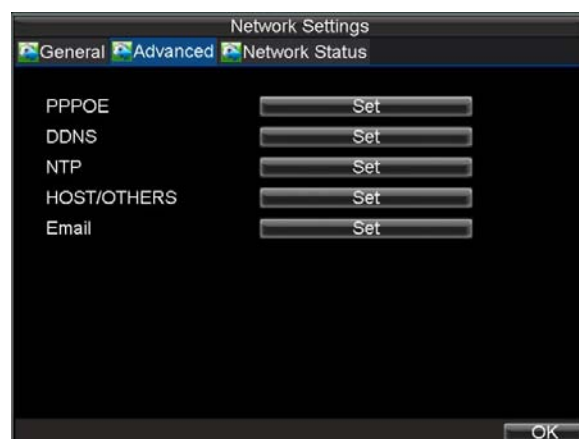

Figure 4. Advanced Network Settings
3. Select the **Advanced** tab. This will take you to the advanced network settings menu, shown in Figure 4.